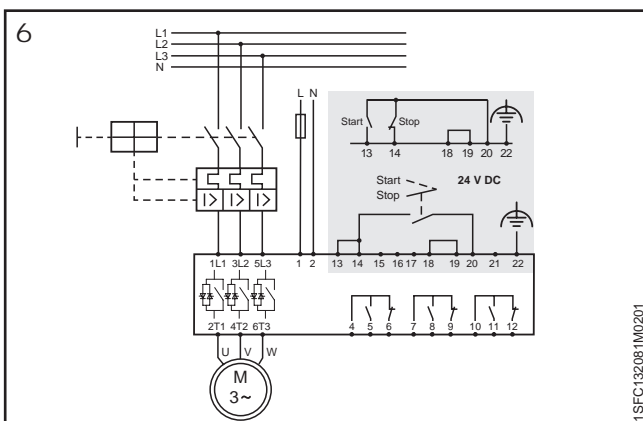

Figure 6: Circuit diagram PSTX30...PSTX370 ( MCCB version)
7. Connect terminals 4, 5, 6, 7, 8, 9, 10, 11 and 12 to use the signal output relays. These are potential free contacts for maximum 250 V AC, 1.5 A AC-15 and 30 V DC, 5 A DC-12. **See Figure 6.**